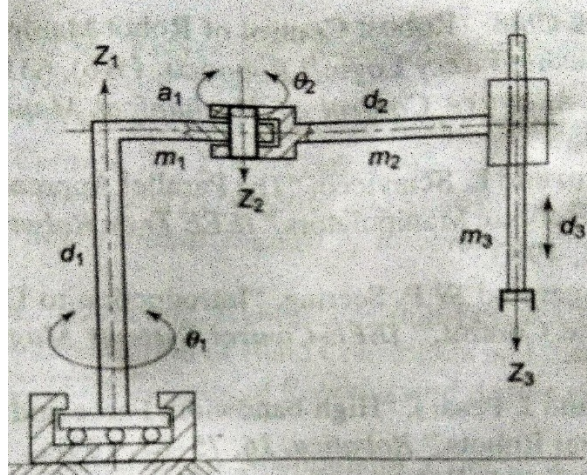

Fig. 2: A 3-DoF SCARA manipulator (Q 11 b)
- b) Design a control system based upon partitioned PD control law for the three axes SCARA manipulator shown in Fig. 2. (Hint: First derive the expressions for the three joint variables.)